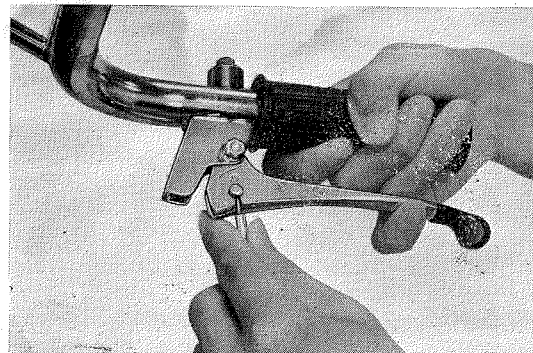

Fig. 61 Brake cable removal
1. Disconnect the front and rear brake cables from the brake levers. (Fig. 61)